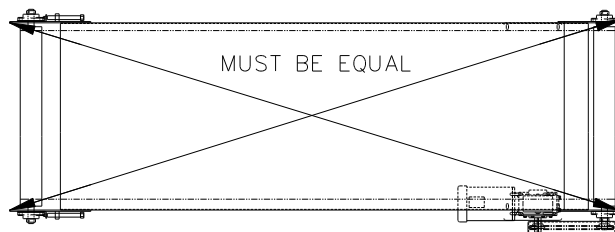

Figure 3.1 Check the bed for square
- Check all bed sections for square. See Figure 3.1. Use a string stretched from opposing corners at edge of bed to aid in straightening conveyor. Ensure that both dimensions are the same. Adjust or shim supports as required. Both sides of the conveyor must be in the same plane (bed not twisted).